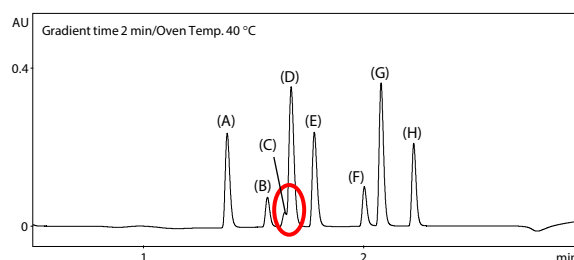

Fig. 2 Chromatogram Obtained Using the 1-mm-ID Column (Before separation optimization) (Peak labels correspond to those in Table 1)
Fig. 2 shows the chromatogram obtained under the analytical conditions listed in Table 1 (gradient time: 2 min, column oven temperature: 40 °C). Compounds (C) and (D) co-eluted (red circle in Fig. 2), indicating that optimization of the separation is required. LabSolutions MD enables anyone to perform rapid and error-free exploration of separation conditions by automatically generating analysis schedules under comprehensive combinations of parameters (steps (1)–(4) in Fig. 3). For example, when varying the gradient time (red box in Fig. 3), an entered center value of 3 min is adjusted by one step above and below the center at 1-min increments, resulting in automatically generated schedules of 2, 3, and 4 min. In this study, nine analytical schedules (Fig. 4) were automatically generated by varying the gradient time (2, 3, 4 min; three patterns) and column oven temperature (30, 40, 50 °C; three patterns), enabling comprehensive evaluation of the separation.